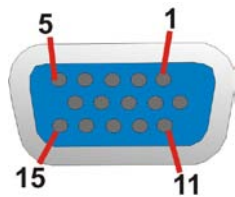

Figure 4-21: VGA Connector
- CN Pinouts: See **Figure 4-21** and **Table 4-23**